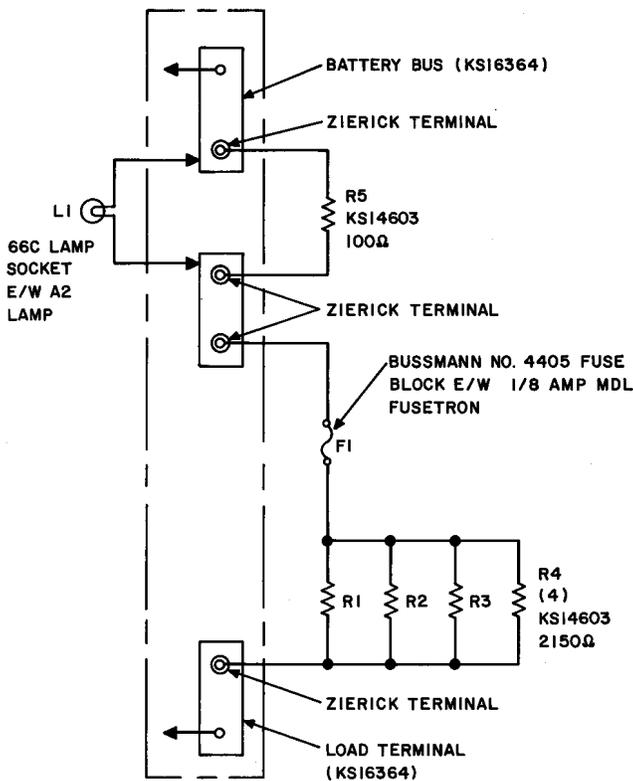

Fig. 3—Schematic Diagram of 783A Filter Tool Charger
**Note:** The 783A filter charger is a modified KS-16364 fuse holder equipped with a series resistor, fuse, and lamp combination. Refer to Fig. 3 for a schematic diagram of the filter charger. When the converters are supplied from the 415A power plant equipped with 140-volt input circuit breakers, the filter charger circuit is included in the 140-volt plant circuit.